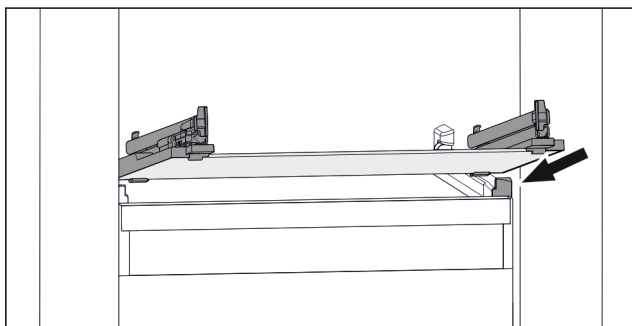

Fig. 66 Example illustration of glass shelf
- Position glass shelf at an angle behind the stoppers. (see Fig. 66)